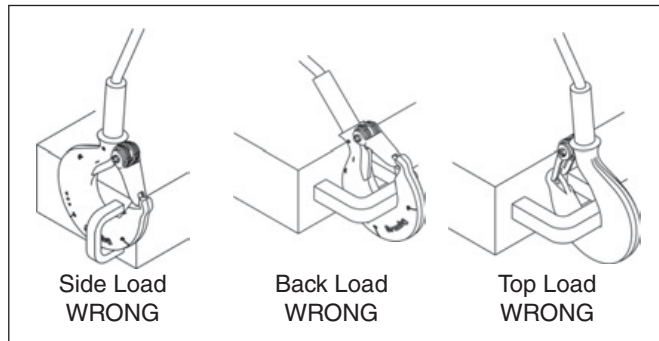

Figure 2
- See OSHA Rule 1926.1431(g)(1)(i)(A) and 1926.1501(g)(4)(iv)(B) for personnel hoisting for cranes and derricks. Only a Crosby or McKissick hook with a PL Latch attached and secured with bolt, nut and cotter (or Crosby Toggle Pin) or a Crosby hook with a S-4320 Latch attached and secured with a cotter pin, or a Crosby SHUR-LOC® hook in the locked position may be used for any personnel hoisting. A hook with a Crosby SS-4055 latch attached shall NOT be used for personnel lifting.
- Never side load, back load, or tip load a hook (See Figure 2).